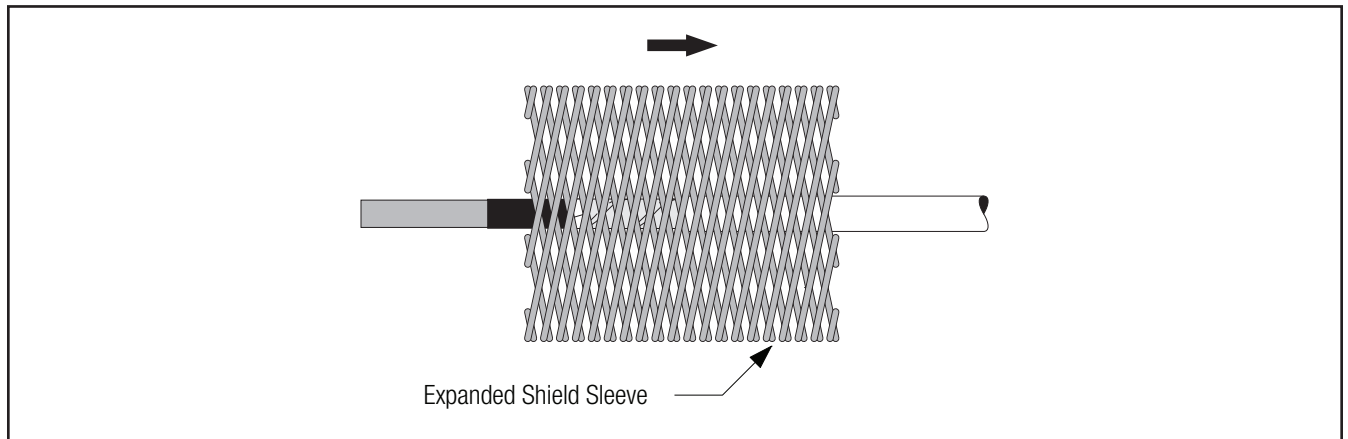

Figure 11
3.2 Position the expanded shield sleeve onto one cable. The shield sleeve is designed to carry up to 1/3 neutral current (*Figure 11*).